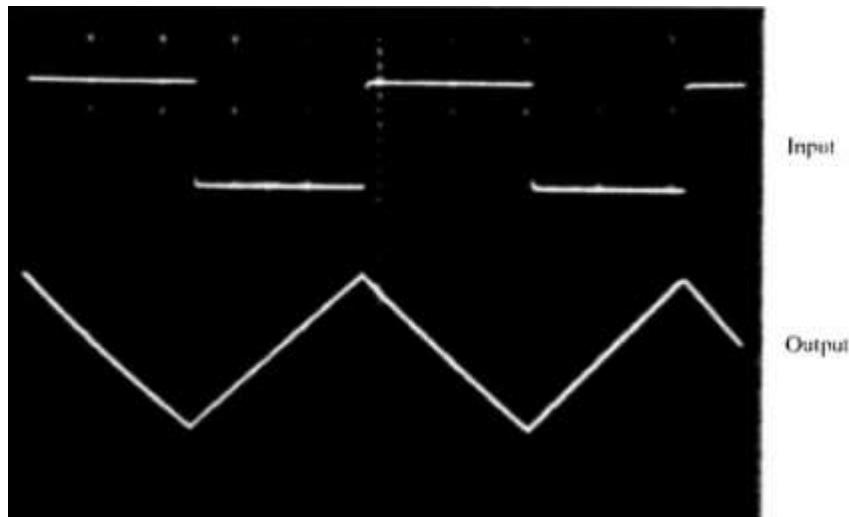

FIGURE 14-4
9. Apply the power to the breadboard and adjust the square wave input to 1 V peak-to-peak and set the frequency to 10 kHz. As shown in Figure 14-4, the output signal is a triangle wave that is 180° out-of-phase with the input signal